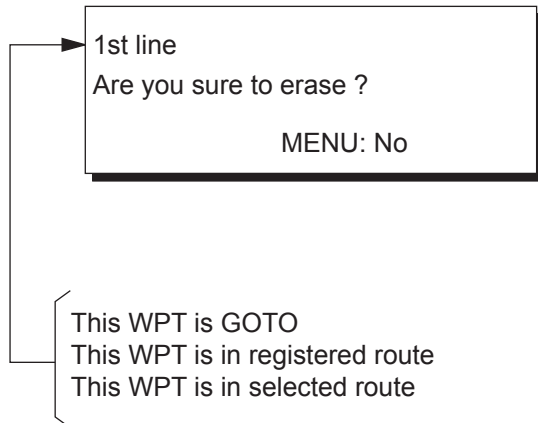

Figure 4-13
- 3) Press the **CLEAR** key. The message shown in Figure 4-13 appears if the waypoint is currently selected as destination, is part of a route, or is in the route currently selected as destination.